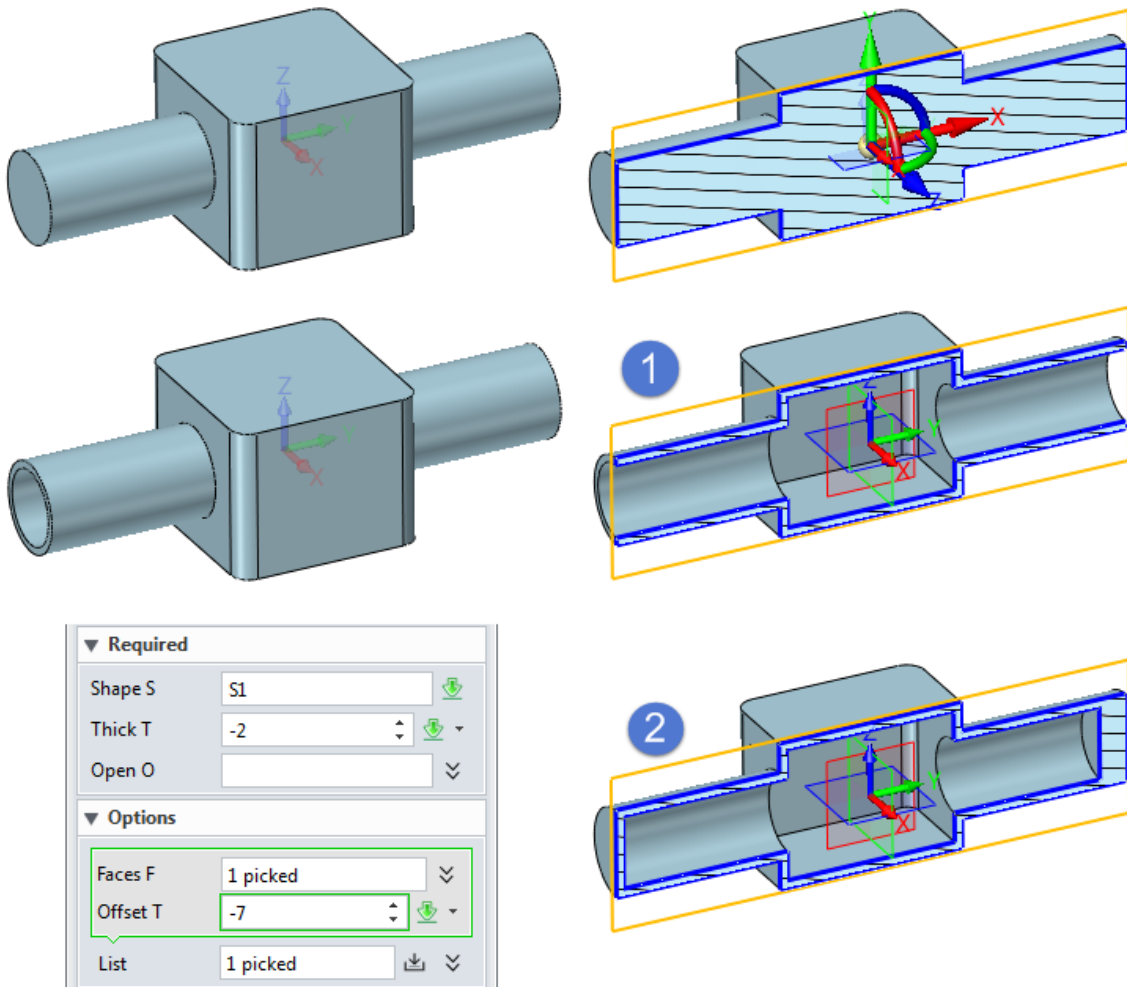

Figure 63 Shell
STEP 02 Pick two end faces of the cylinder as the open faces. Click ok to get the shell result. Then with dynamic section command to check the model, as shown in the Figure63 (middle image). This option is unnecessary parameter.
STEP 03 If you not define the open faces, and define the offset faces. E.g. pick the right end face of the cylinder, then set the offset value as -7mm. Then you will get the result, as shown in the Figure63.